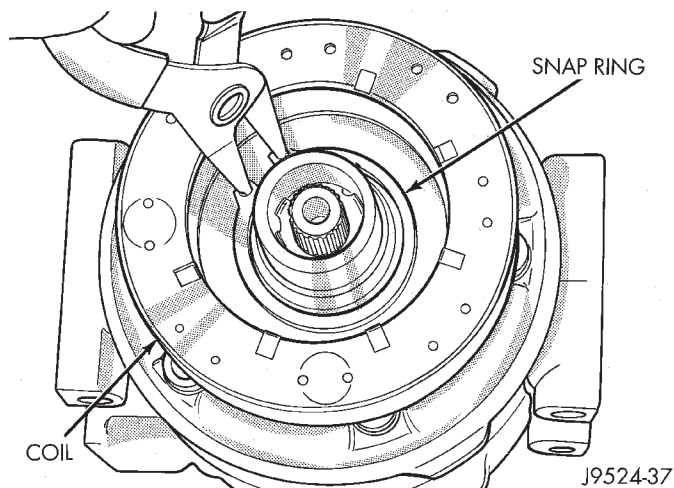

Fig. 29 Clutch Coil Snap Ring Remove/Install
(7) Remove the screw and retainer from the clutch coil wire harness on the compressor front housing.
(8) Remove the snap ring from the compressor hub and remove the clutch field coil (Fig. 29). Slide the clutch field coil off of the compressor hub.